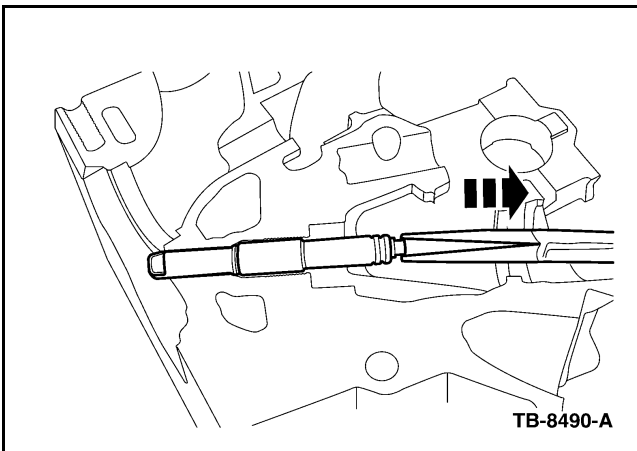

Figure 2 - Article 08-1-9
- b. Mode 2: The porcelain center and ground electrode shield is left behind and only the upper jamb nut comes out, or the porcelain breaks with a section remaining in the ground electrode shield and only the upper jamb nut and a section of porcelain comes out. In this case additional soaking with Motorcraft® Carburetor Tune-Up Cleaner is required to dissolve carbon deposits. Long-reach nose pliers should be used to grasp and remove the porcelain center from the ground electrode shield. (Figure 2)